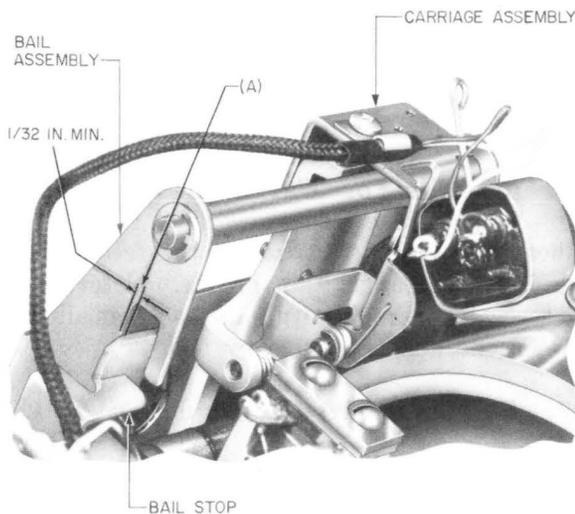

Fig. 6—Bail Stop Clearance (Shown in Unoperated Position)▲
With the L1 solenoid electrically operated, the clearance between the side of the slot in the bail assembly and the side of the bail stop [Fig. 6, (A)] farthest from the drum shall be minimum 1/32 inch throughout the entire carriage travel. Check using the 92K gauge. This requirement should be checked each time the recorder is lubricated.